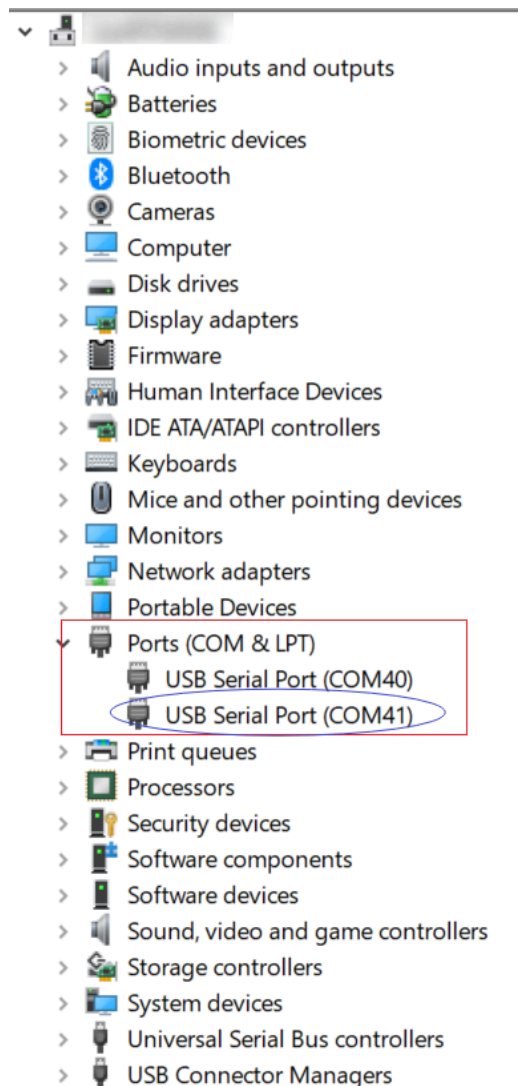

Figure 8 - New COM Ports from the Interface Board of ATM2/ATM3 EVK
- Plug the other end of the USB cable into the Windows computer, Windows will install the FTDI USB-to-serial driver automatically. After the driver is installed, the device shows as a COM port in the Windows Device Manager. See Figure 8.